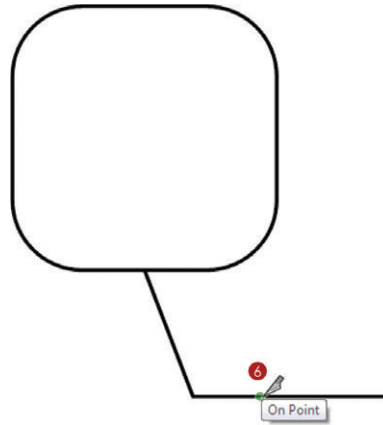

Figure 13.33 Use the Split tool to break the leader line into two segments.
6. Use the Split tool to break the leader line as shown in Figure 13.33.